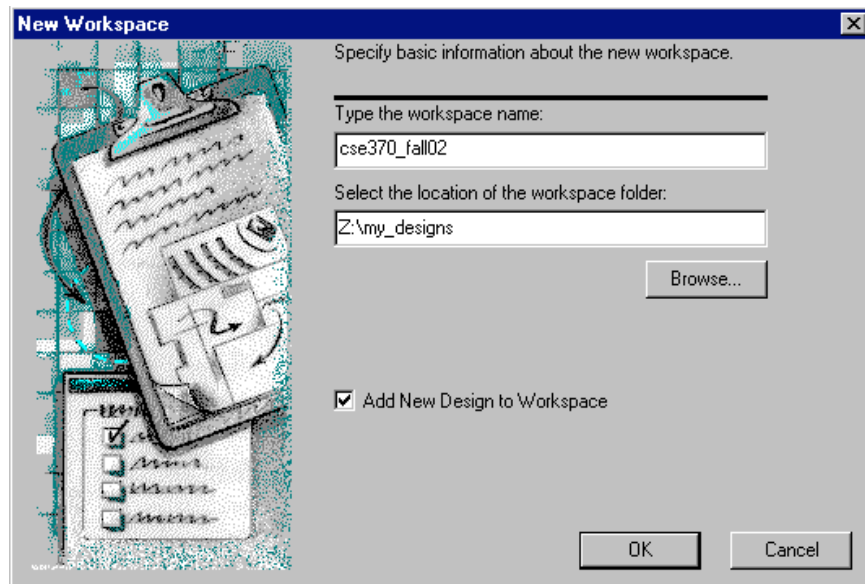

Figure 2
5. Your New Workspace window should look like Figure 2. If so, click the OK button, and continue.